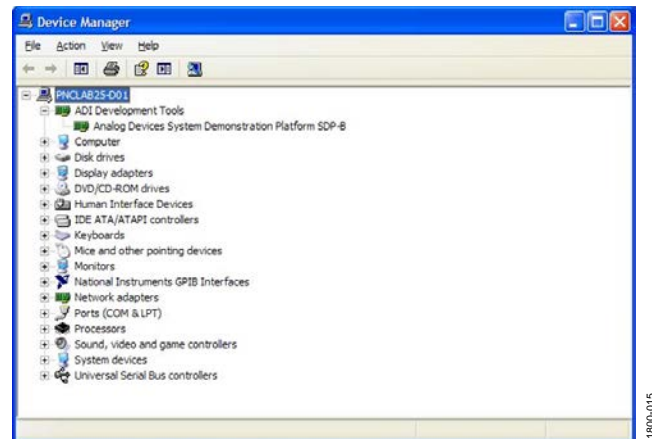

Figure 15. Device Manager:
- b. Under **ADI Development Tools**, **Analog Devices System Development Platform SDP-B** should appear (see Figure 15), indicating that the EVAL-SDP-CB1Z driver software is installed and that the board is connected to the PC correctly.